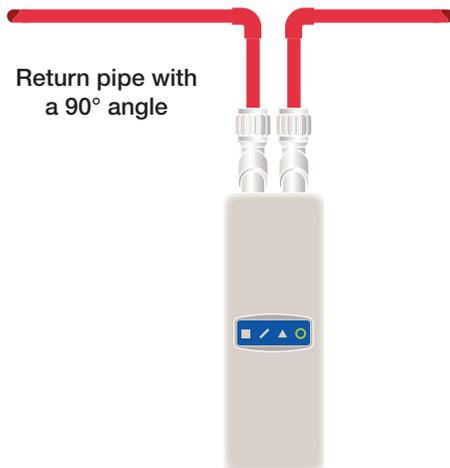

Figure 13. Exhaust pipe
3. In any other situation, it is possible to avoid installing the exhaust pipe, always bearing in mind that it is recommended to use about 50 cm (20 in) of pipe with a 90° radius bend at the end to facilitate air flow and avoid the introduction of contamination into the detector (Figure 13).